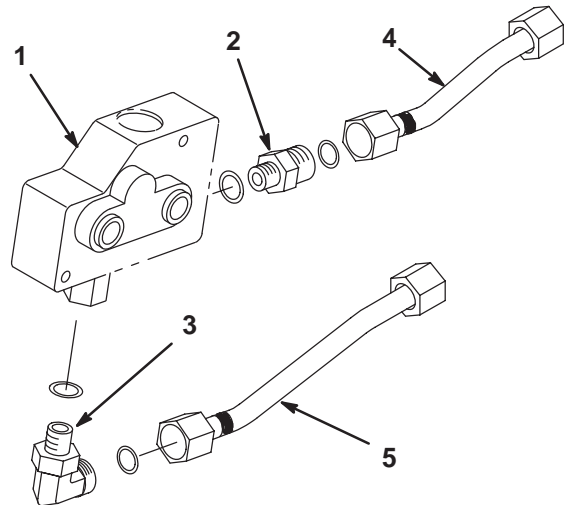

Figure 8
4. Loosen the 2 capscrews securing the lift valve to the frame channel (Fig. 8).
6. Install a new straight fitting and o-ring into the rear of the lift valve (Fig. 8).
9. Install a new elbow fitting and o-ring into the bottom of the lift valve (Fig. 8).
10. Loosely install the short hydraulic tube to the straight fitting on the rear of the lift valve (Fig. 8).
11. Loosely install the long hydraulic tube to the elbow fitting on the bottom of the lift valve (Fig. 8).